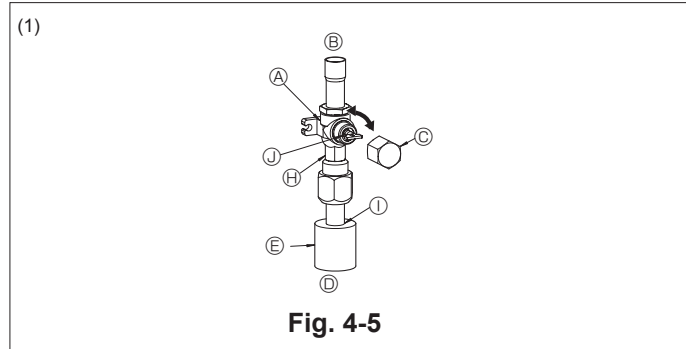
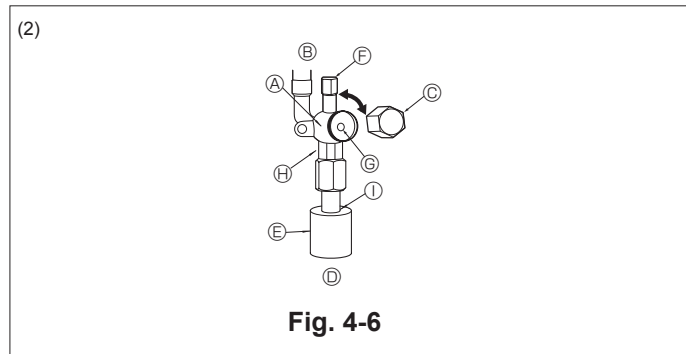

Fig. 4-5
Fig. 4-6
- (1) Gas side (Fig. 4-5)
- ① Remove the cap, pull the handle toward you and rotate 1/4 turn in a counter-clockwise direction to open.
- ② Make sure that the stop valve is open completely, push in the handle and rotate the cap back to its original position.
- (2) Liquid side (Fig. 4-6)
- ① Remove the cap and turn the valve rod counterclockwise as far as it will go with the use of a 4 mm hexagonal wrench. Stop turning when it hits the stopper. (ø6.35, 1/4 inch: Approximately 4.5 revolutions) (ø9.52, 3/8 inch: Approximately 10 revolutions)
- (A) Valve